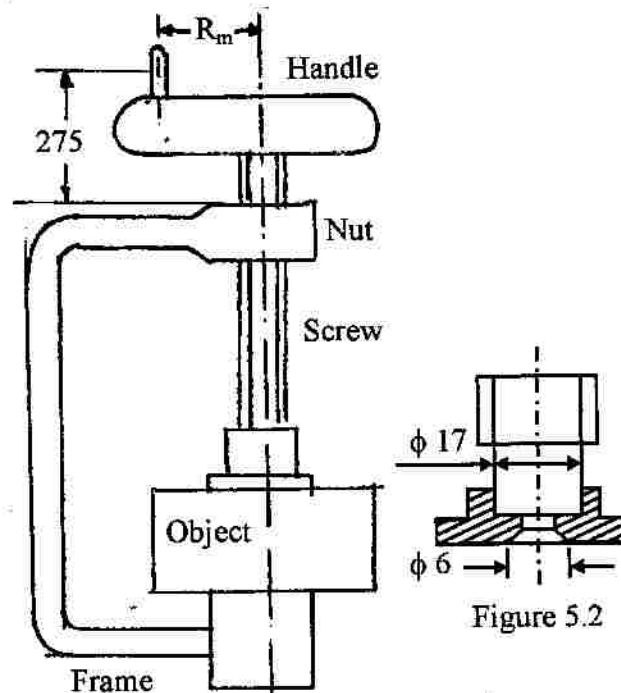
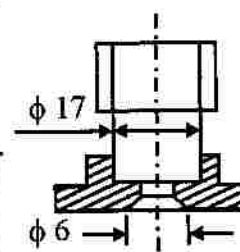

Figure 5.1
Figure 5.2
5. (a) It is required to design a double-start screw with square threads for the C-clamp shown in figure 5.1. The maximum force exerted by the clamp is 5 kN. It is assumed that the operator will exert a force of 275 N at the ball handle of the hand wheel. The screw is made of plain carbon steel having yield point stress 335 N/mm2, while the nut is made of grey cast iron FG200. The dimensions of the collar are given in the figure 5.2. The factor of safety is 2.5. Determine the dimensions of the screw and the nut and calculate the radius  $R_m$  of the ball handle. 10